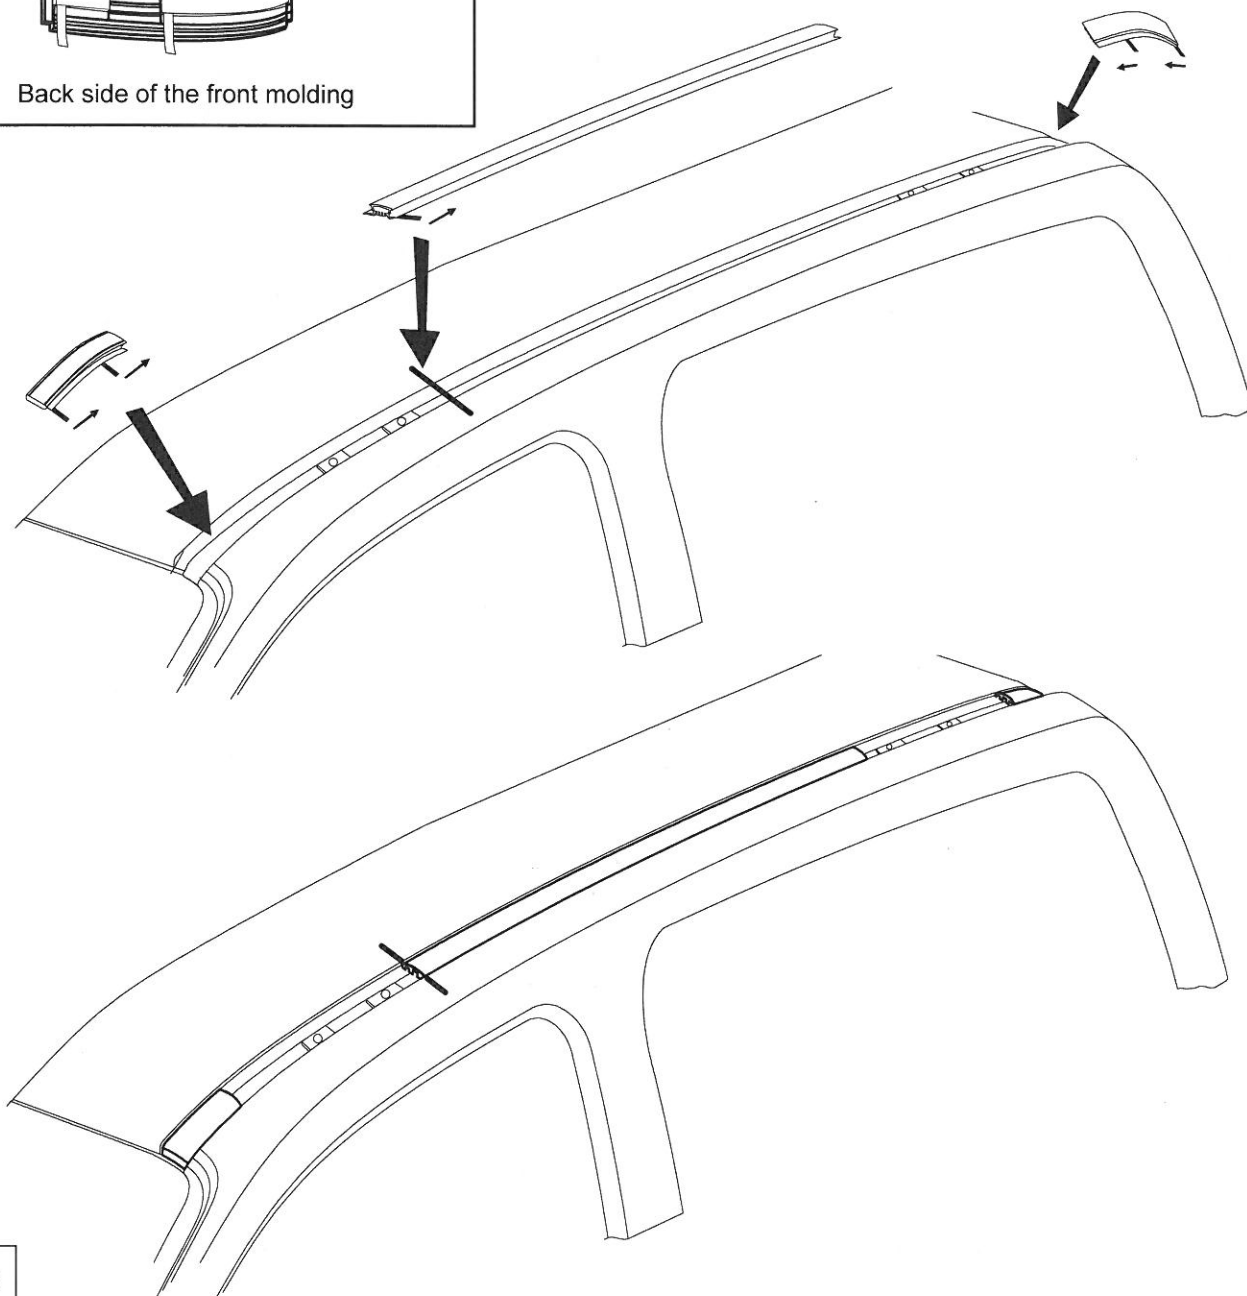

Fig.3
5. Install (4) molding set which composed of front, center and rear moldings. Moldings have LH or RH mark on back of the each molding. Center moldings also have a mark of direction to install (FT ←). To install front and rear molding, remove peel-off paper and paste urethane sealer on back of moldings at space between adhesive tapes. Refer to the explanation shown left upper corner of Fig. 3. Then set front molding by aligning the front edge of molding to front edge of mounting surface (molding groove). Press moldings firmly. Set the rear molding by aligning rear edge of molding to rear edge of mounting surface. Press molding firmly. To install center molding, partially peel off the front part of peel-off paper and set the front end of center molding to the mark made in step 2. Align the direction marked back of the molding to vehicle front. Remove all remaining peel-off paper and press entire length of molding firmly.